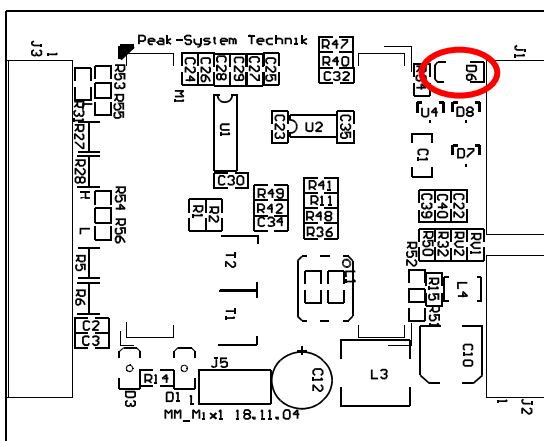

Figure 2: Position D6 (upper side of the PCB)
1. Equip the unpopulated position D6 (see Figure 2) with a reference diode BZV55C12.